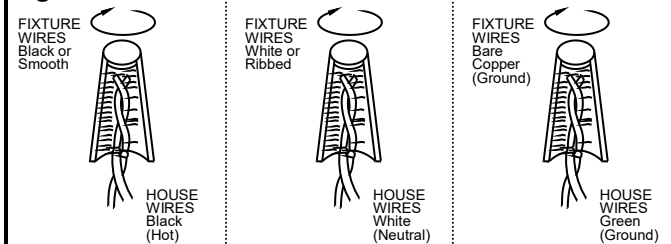

Fig. 5
### PREPARATION (Fig. 3 & Fig.5)
1. Loosen hex nut (S) by using wrench (W) (not included). Carefully remove washer (T), lock washer (U), L-shaped metal plate (V), canopy (C) and swivel (P) (Fig.5).
2. Put plastic washers (K), large glass balls (J), plastic washers (K) through the longer rods on assembly (M), then secure with nut (L). Put plastic washers (K), small glass balls (J1), plastic washers (K) through the shorter rod on assembly (M), then secure with nut (L).
3. Thread metal ring (I) onto all thread (G), then thread assembly (M) onto all thread (G) on top of fixture body.